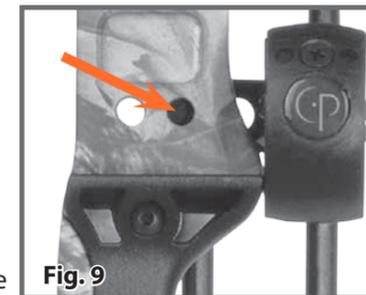

Fig. 9
- Use the mounting bolt and washer to attach the arrow rest to the pre-threaded hole near the arrow shelf (see figure 9).